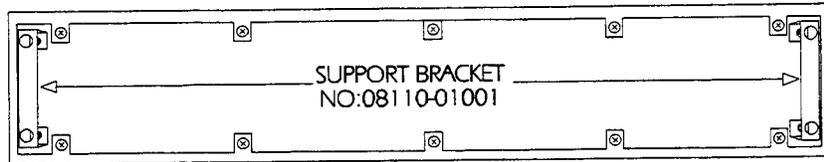

Figure 1-5. Rear Panel Showing Case Fixing Screws
4. Stand the instrument on the rear support brackets (shown in Figure 1-5) and slide the case back from the front panel by a firm movement